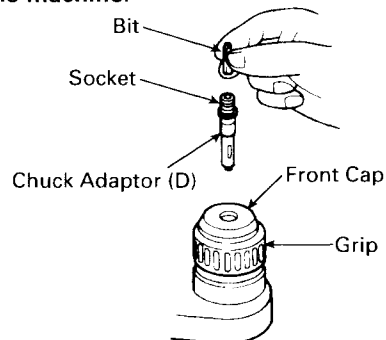

Fig. 10
**4. When driving machine screws (Fig. 10)**
- Do not attempt to use the rotary hammer in the rotation and striking function with chuck adaptor (D) and bit attached.
5. When driving wood screws (Fig. 10)